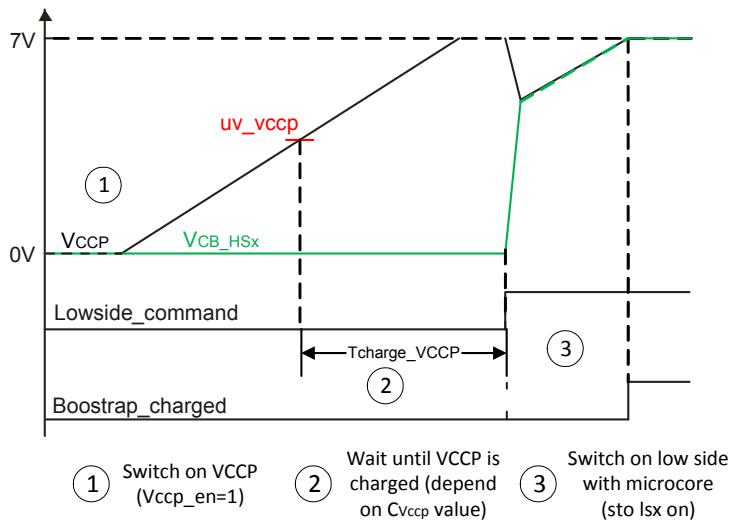

Figure 22. Power-up:  $V_{CCP}$  and bootstrap capacitors - after  $V_{CCP}$  fully charged
1. Wait for some specific time after  $V_{CCP}$  regulator is activated to ensure the  $V_{CCP}$  output voltage has reached its nominal value of about 7.0 V. This is only possible if the  $V_{BATT}$  voltage is at a nominal value. Switch on the LS MOSFET(s) to charge the bootstrap capacitors. If the  $V_{CCP}$  voltage was high enough and the bootstrap capacitors are small compared to the  $V_{CCP}$  output buffer capacitor, this leads to a transfer of charge without crossing the  $V_{CCP\_UV}$  threshold again. Figure 22 shows this strategy.